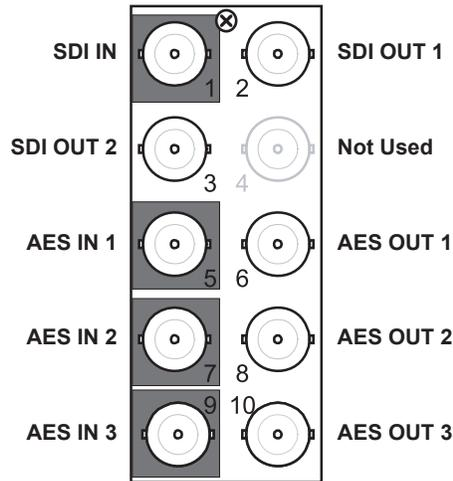

Figure 18 Cable Connections for the SFS-8622-A
**Figure 18** illustrates the cabling designations for one SDI input, two SDI outputs, three AES-3id 75ohm unbalanced inputs, and three AES-3id 75ohm unbalanced outputs. The **AES I/O Config** is set to **3 in, 3 out**.